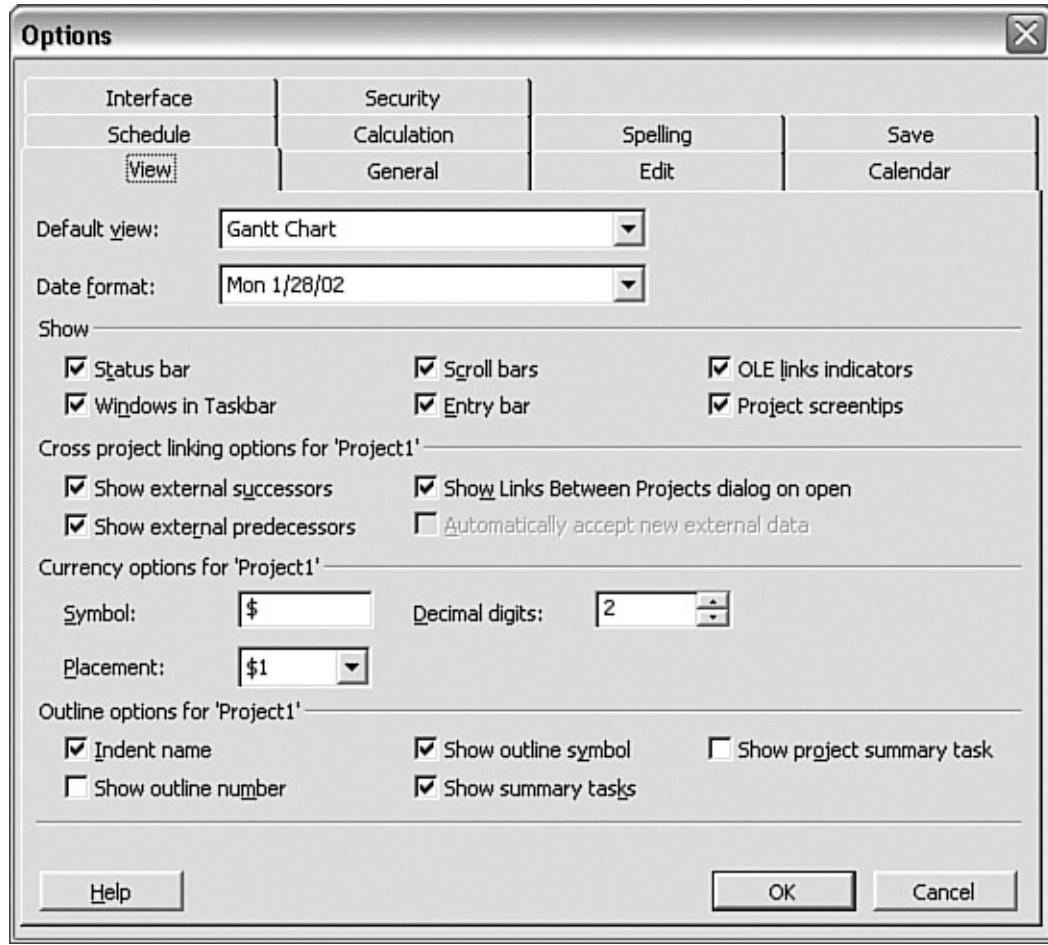

Figure 23.7. Use Tools, Options dialog to review settings.
- **Review default settings**—There are a handful of default settings under Tools, Options that can be troublesome if you're not aware of what is going on (see Figure 23.7).